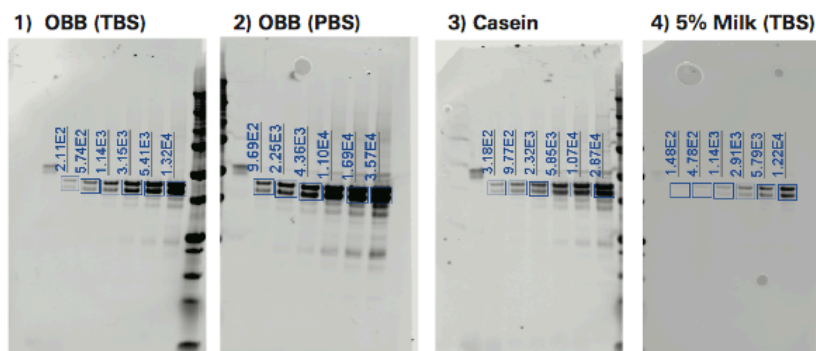

Figure 2B. Image display settings individually adjusted for each blot
- Individually adjust the image display settings for each blot to get the “best” image (Fig. 2B).
Figure 2B. After cropping, image display settings were adjusted individually to display the “best” image for each blot. Signal intensity values are shown in each lane.
- Non-specific background bands were seen with OBB (TBS), OBB (PBS), and Casein blocking buffers (Fig 2B, arrows). Non-specific banding was reduced with 5% milk (TBS).